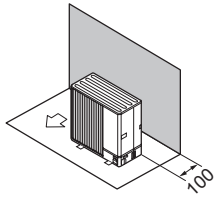

Fig. 2-24
- ① Obstacles at rear only (Fig. 2-24)